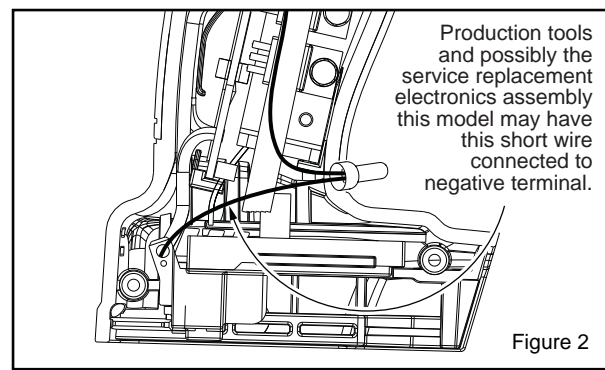

Figure 2
- 1a. For a tool design where HV system consists of a short wire soldered to the negative right rear terminal of the battery connector block and the other end joined to a longer wire with a closed end terminal: *use a side cutter or similar tool to snip the end off of the closed end connector. Unscrew the long wire from gearcase. Discard old HV long wire and connector. Twist the wire strand end of the new 23-94-2125 to the wire strands of the short wire on the battery connector block. Secure both wires with a new closed end connector (22-56-0150). See Figure 2.*